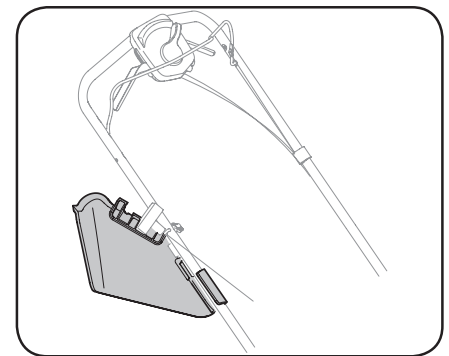

Figure 2-11
3. When not using, you may secure side discharge chute to handle as shown in Figure 2-11.